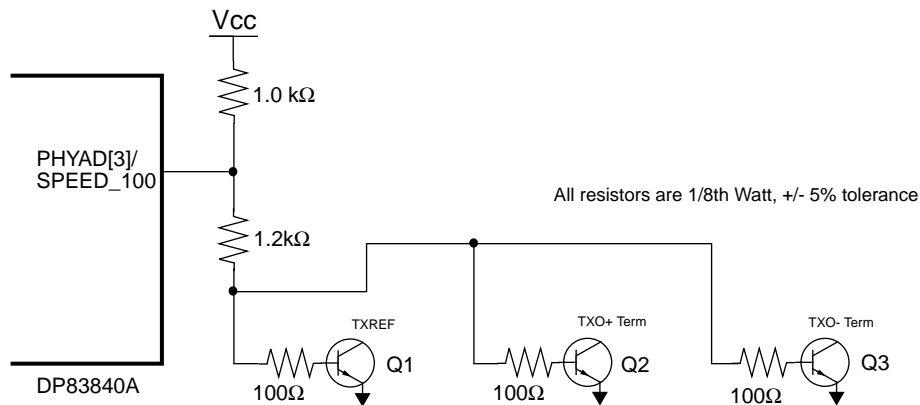

Figure 24. Recommended Control Circuitry and Valid PHYAD[3] Logic High Latch-in Value
1.2kΩ resistor with respect to proper transistor biasing. Figure 24 illustrates the recommended connection of external circuitry when using PHYAD[3] / SPEED_100 to control transistors used for Common Magnetics implementations.